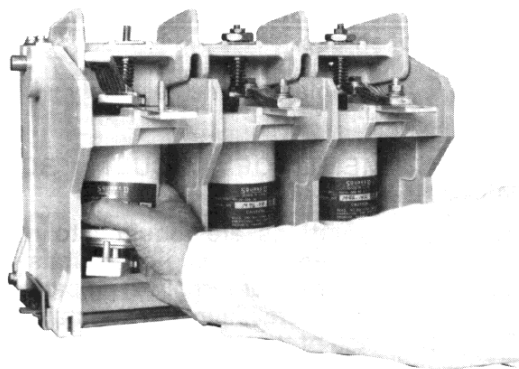

FIGURE 8
- 2) Remove bottom bolt (B) holding vacuum bottle assembly to the contactor.
- 3) Remove the lock nut (C) and gap adjustment nut (D) from the top of the bottle assembly.
- 4) Lift up on the vacuum bottle assembly. (See Figure 8) Pull out then down on the bottom portion of the bottle assembly to remove it from the contactor.